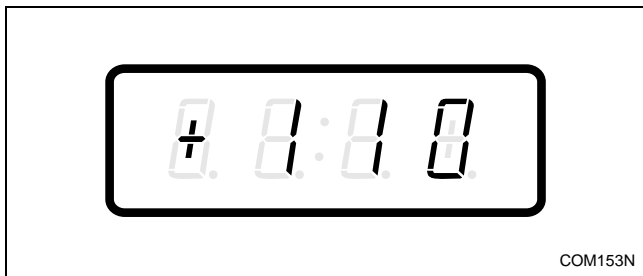

Figure 196
3. Press the DELICATES (+) or the COLD (-) keypad to scroll through the programmable options until “+110” appears in the VFD. Refer to *Figure 196*.